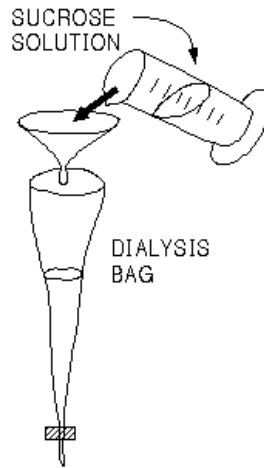

Figure 3: Filling the Dialysis Tube.
- (e) Pour 10 ml of 30% sucrose carefully into the bag. Squeeze the bag to bring the liquid up to the level of the open end, making sure **all air is out** of the bag. See Figure 3.